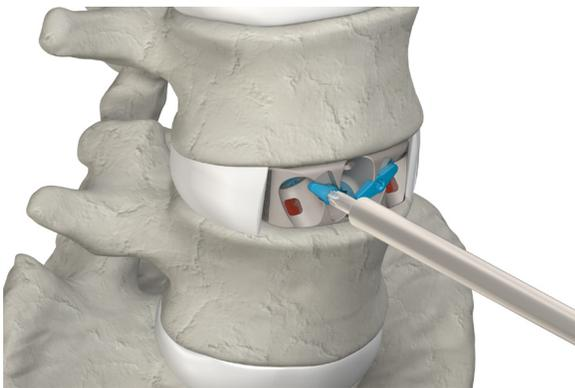
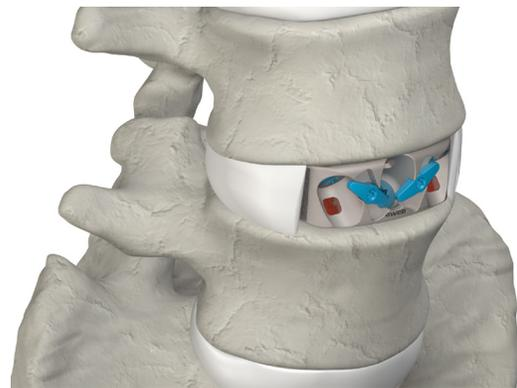

Figure 24
Figure 25
- ▲ Connect the Anti Back Out Plate Driver to the Torque Limiting Handle. Use the Anti Back Out Plate Driver to rotate the two Locking Plates approximately 90° (Fig. 24). The wings of the Locking Plate will stop against the recess on the anterior face of the implant (Fig. 25).